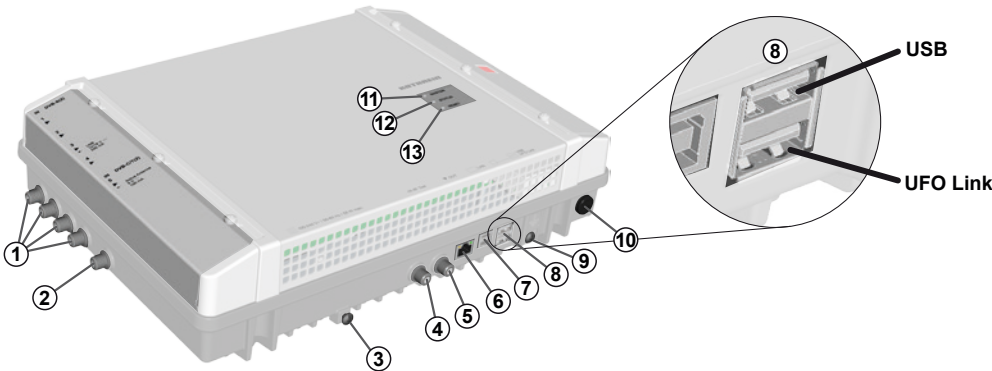

Fig. 1: Device elements
1. Connect a potential equalisation wire (Cu, $\geq 4 \text{ mm}^2$) to the earthing screw; see ⑨ in Fig. 1, P. 3.
- The plugs must be inserted into the master and slave at the appropriate UFO link interface ports (⑧ in Fig. 1).
4. Connect the RF signal cables for the antenna, cable network and output to the head-ends; see ①, ② and ⑤ in Fig. 1, P. 3.